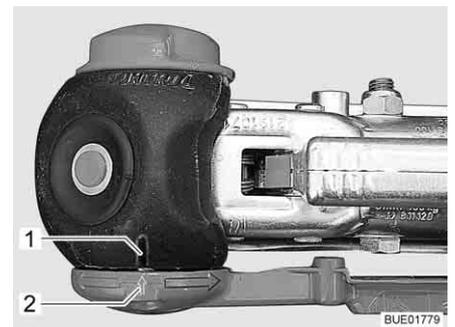

Fig. 4 Check "AKS closed"
- Push the stabilising lever down until the marking on the stabilising lever (Fig. 4,2) is aligned with that on the stabilising housing (Fig. 4,1).